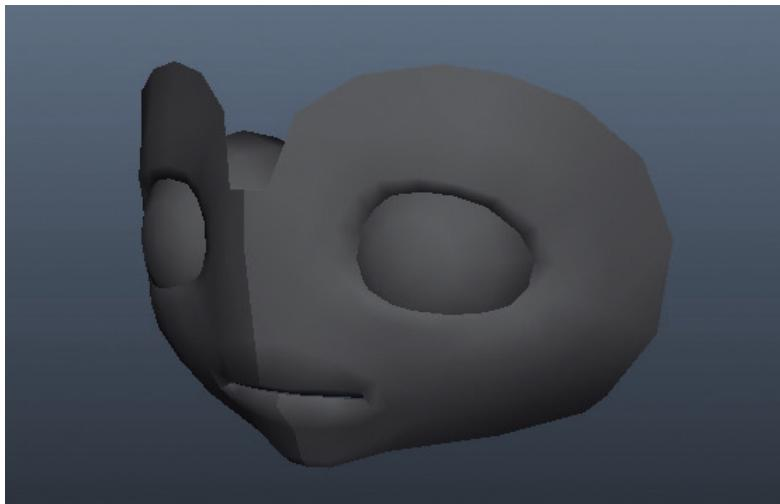

FIG 4.33 Mirrored shape. Starting to take shape, no?
Step 50: Delete the old instance of the right side of the face (if necessary), and create another mirrored instance. Remember to do this, select the mesh that is the left side of the face and choose Edit > Duplicate Special with Instance checked and -1 for the Scale X value (Fig. 4.33).